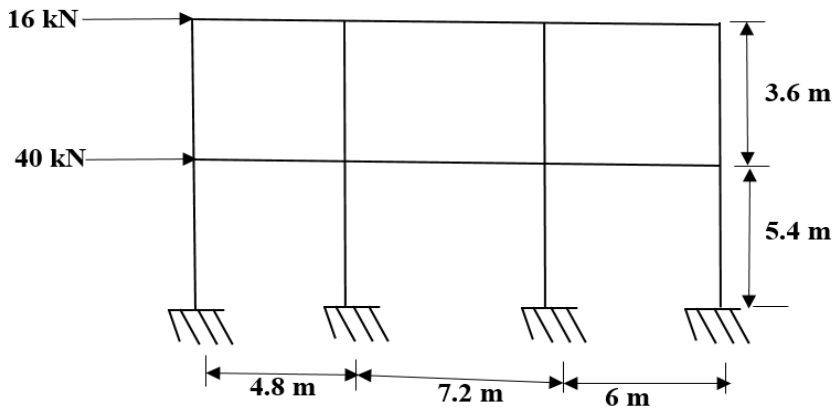

Figure. 1
- b) Analyse the frame in Figure.1 using portal method. Beams and columns have same size. 12